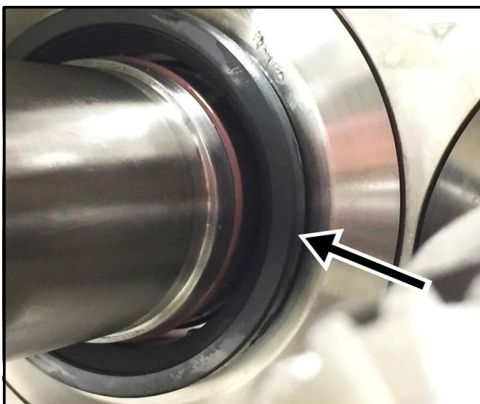

Figure 98 - Install seal
4. Align the drive slots in the seal with the pins on the seal carrier, then press the seal into the seal carrier as shown in Figure 98.